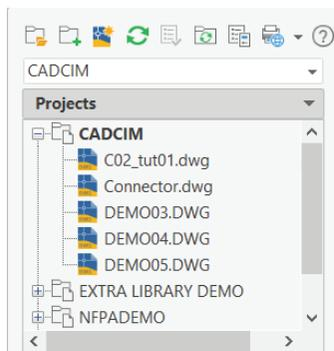

Figure 2-69 The PROJECT MANAGER displaying the CADCIM project with the DEMO02.dwg drawing replaced by the Connector.dwg drawing
- Select the *Connector.dwg* drawing from this dialog box and choose the **Select** button; the **Apply Project Defaults to Drawing Settings** message box is displayed. Next, choose the **Yes** button; the *DEMO02.dwg* is replaced with the *Connector.dwg* drawing in the **CADCIM** project, as shown in Figure 2-69.